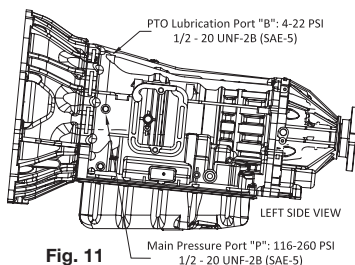

Fig. 11
6. Locate the transmission main pressure port (see Figure 11). Remove the installation kit 48TK5472 components from the FA6B PTO carton. Locate the straight fitting (43T39222) and the elbow fitting (43T36445).
9. Locate the transmission PTO lubrication port (see Figure 11). Locate the straight fitting (43T39222) and insert (O-Ring end first) into the lubrication port "B".